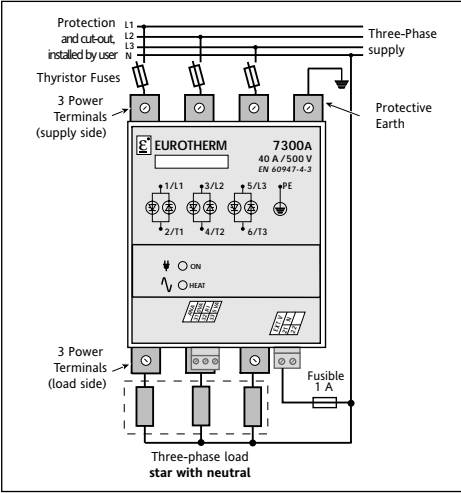

Figure 2-8 Connecting a three-phase load using star with neutral configuration (4S)
- star with neutral (4 connection wires, code 4S), figure 2-8